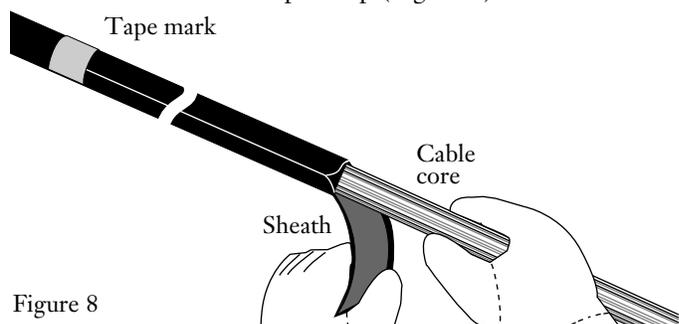

Figure 8
5.7 Carefully separate the sheath from the yarn-covered cable core back to the tape wrap (Figure 8).